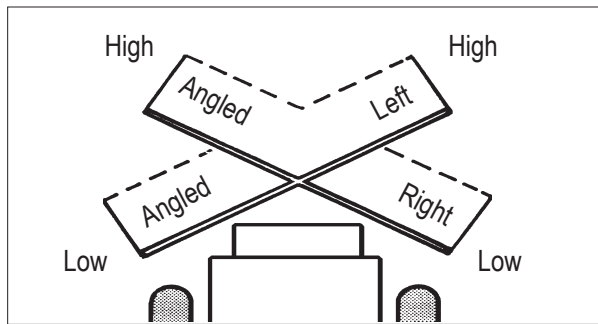
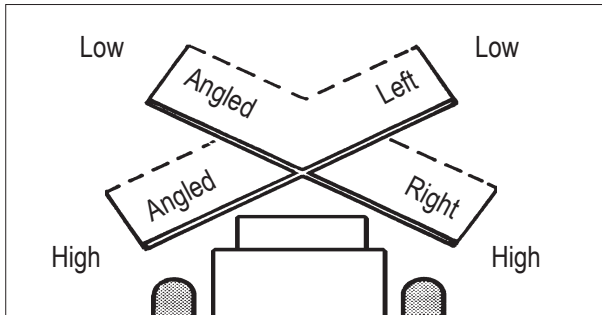

figure 3
figure 4
- If the measurements are not equal, adjust the mounting assembly upright. For measurements that resemble figure 3, turn the leveling bolts counterclockwise. For measurements that resemble figure 4, turn the leveling bolts clockwise.